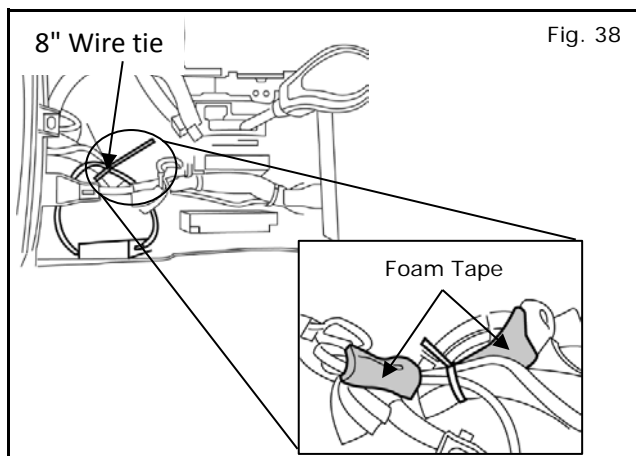

Fig. 38
- Bundle & Tie Power harness & Light Harness using 8" wire tie & foam tape using 60 x 90mm Foam tapes, as shown in the zoomed out frame in Fig. 38